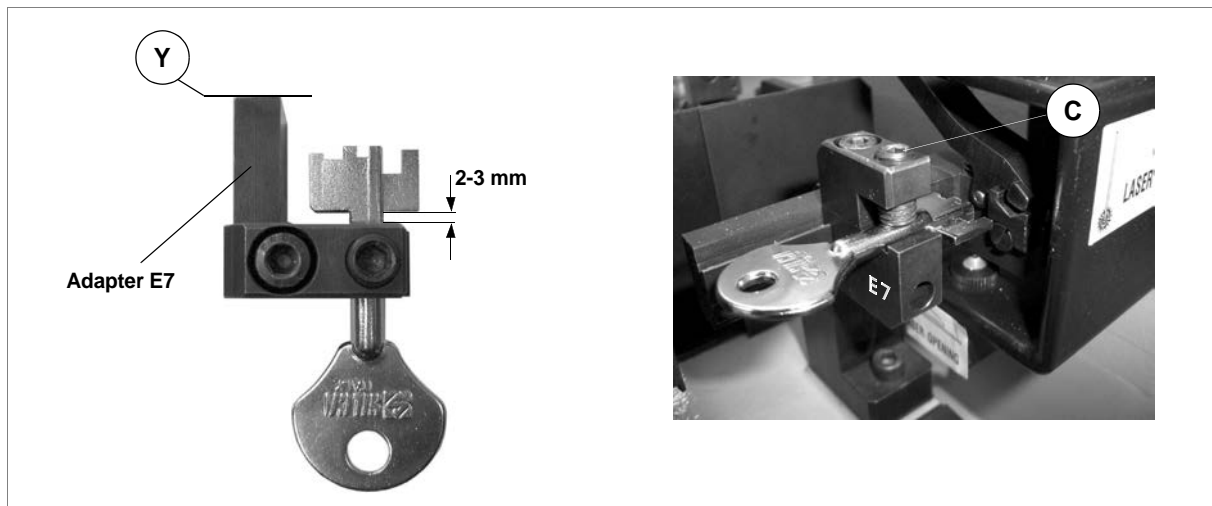

Fig. 41
- 1) Loosen the screw (G) 1) on the S100 clamp.
- 2) Pull out the mobile clamp unit (B).
- 3) Fit the **E7** adapter into the S100 clamp, then tighten the screw (G).
- 4) Fit the original key into the **E7** adapter so that the key stem (rectangular or round) fits perfectly into its seat. The key head will protrude from the side marked E7, whereas the bit will fit inside the adapter, not in contact with the stop but at approx. 2-3 mm. (fig. 41). When this condition is reached, tighten the grub screw (C) to secure the key.
- 5) Push the **E7** adapter until the side (Y) is butting against the fixed part of the S100 - A clamp.